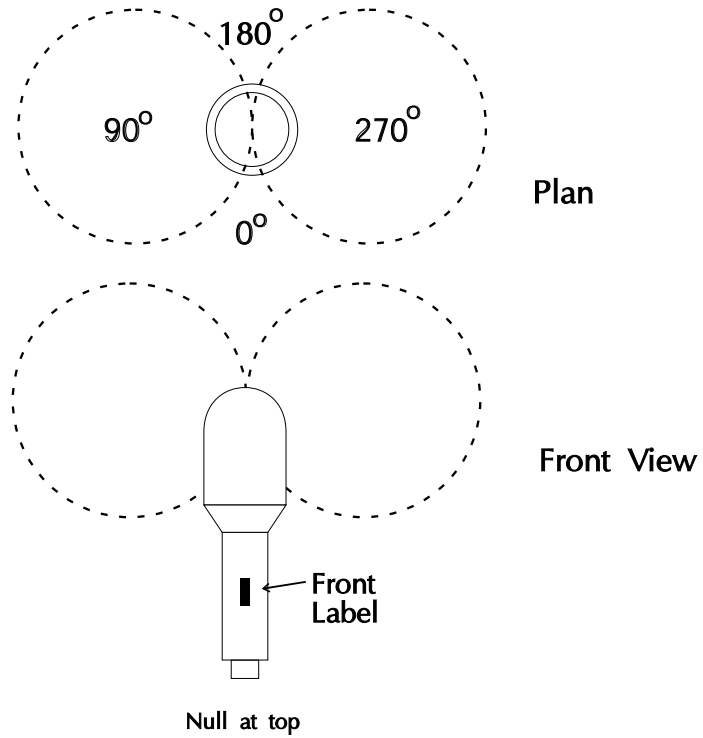
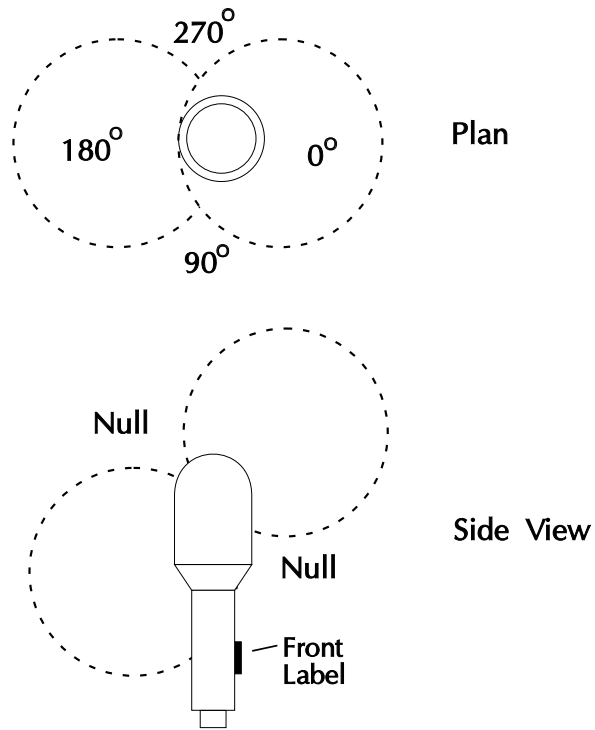

Figure 2: Figure of Eight: Angle =  $180^\circ$ , Azimuth, Elevation:  $0^\circ$
Figure 3: Figure of Eight: Angle, Azimuth
- Test 2** Aim the microphone 90° to the right by rotating the azimuth control 90° clockwise - (see Figure 2 - Page 12 )The signal peaks and null will have moved round 90° relative to the label.
- Test 7** Return the *azimuth* to 0° and turn *elevation* to +45°. The peaks should now be at +45° relative to microphone front and -45° relative to microphone back as in Figure 3.
Once this principle is understood, the required phase of the added signal to achieve a desired result can easily be determined by reference to the B-Format signal vectors (See Figure 2). For example, if the microphone requires to be tilted up, (elevation control) X' must now contain some +Z and Z' some -X, or tilted down, X' must contain some -Z and Z' some +X and so on (See Figure 3). Each of the 3 B-Format directional signals has a 'positive hemi-sphere' in which its vector lies, and an opposite 'negative hemi-sphere'.